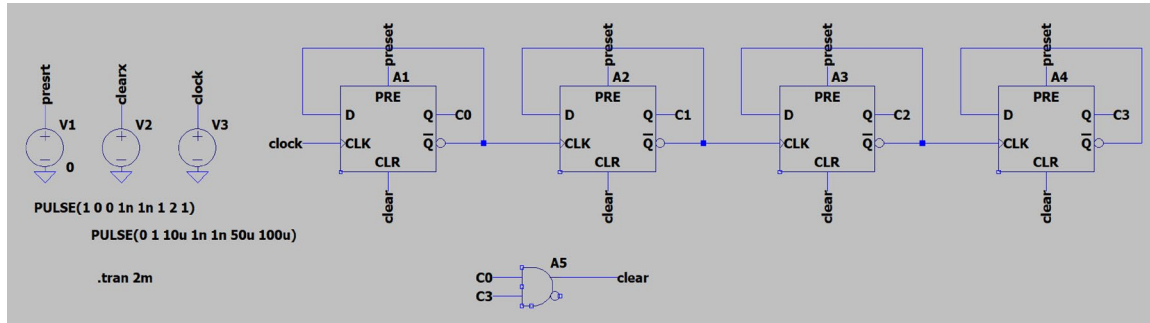

Fig.1a
- a) Divide-by-16 counter as shown in Fig.1a